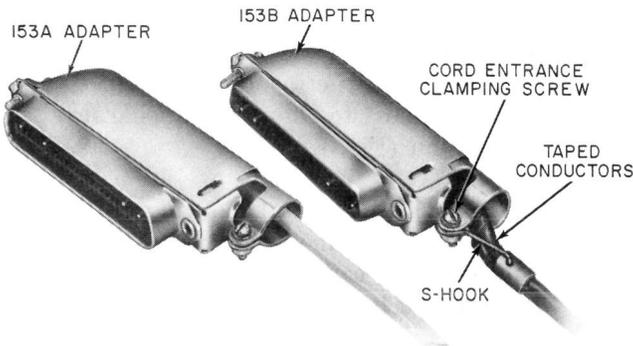
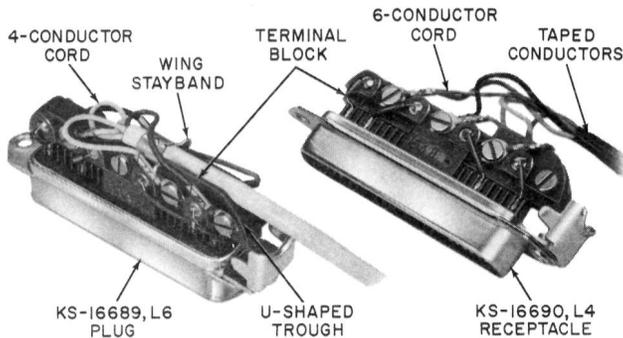
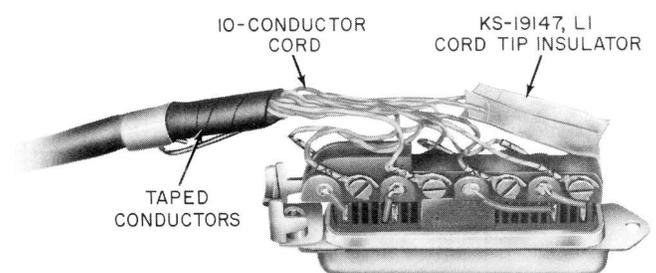

Fig. 8—153A and 153B Adapters
Fig. 9—153A and 153B Adapters, Hood Removed
Fig. 11—10-Conductor Cord in 153-Type Adapter
D. 153A and 153B Adapters (Fig. 8)
- The 153A adapter consists of a KS-16689, L6 plug with a terminal block fitted to the back of plug body (Fig. 9).
(Fig. 9) serves to retain the wing-type stayband of cords so equipped.
- The hood has a cord-entrance clamping screw which is used to restrain S-hook terminated cords (Fig. 9), and cords of this design should have the conductors taped about 1-1/2 inches to improve appearance and protection (Fig. 8).
- Cords with up to ten conductors (Fig. 9 and 11) may be used with the 153-type adapter. Only eight spade tips can be terminated. Insulate and store extra spade tips. Due to limited space, use KS-19147, L1 cord tip insulator (Fig. 11).